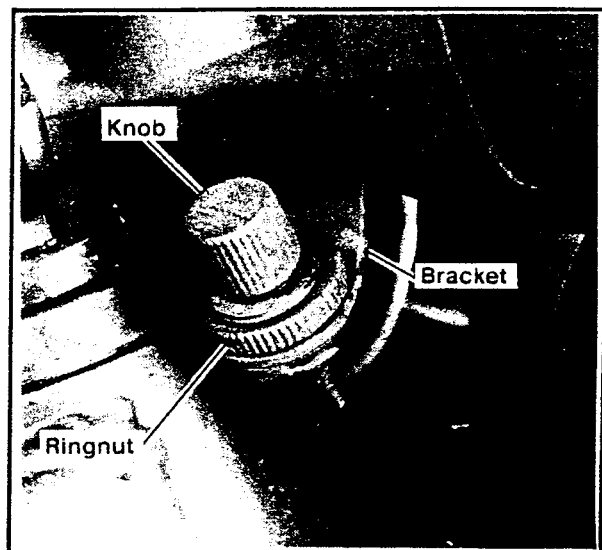

Figure 5-40. Remove Tripmeter Knob
1. See Figure 5-40. To remove the Speedometer, remove the tripmeter knob. To remove knob, unscrew knurled ringnut and slide cable and knob through frame bracket. Knob and cable are an integral part of speedometer